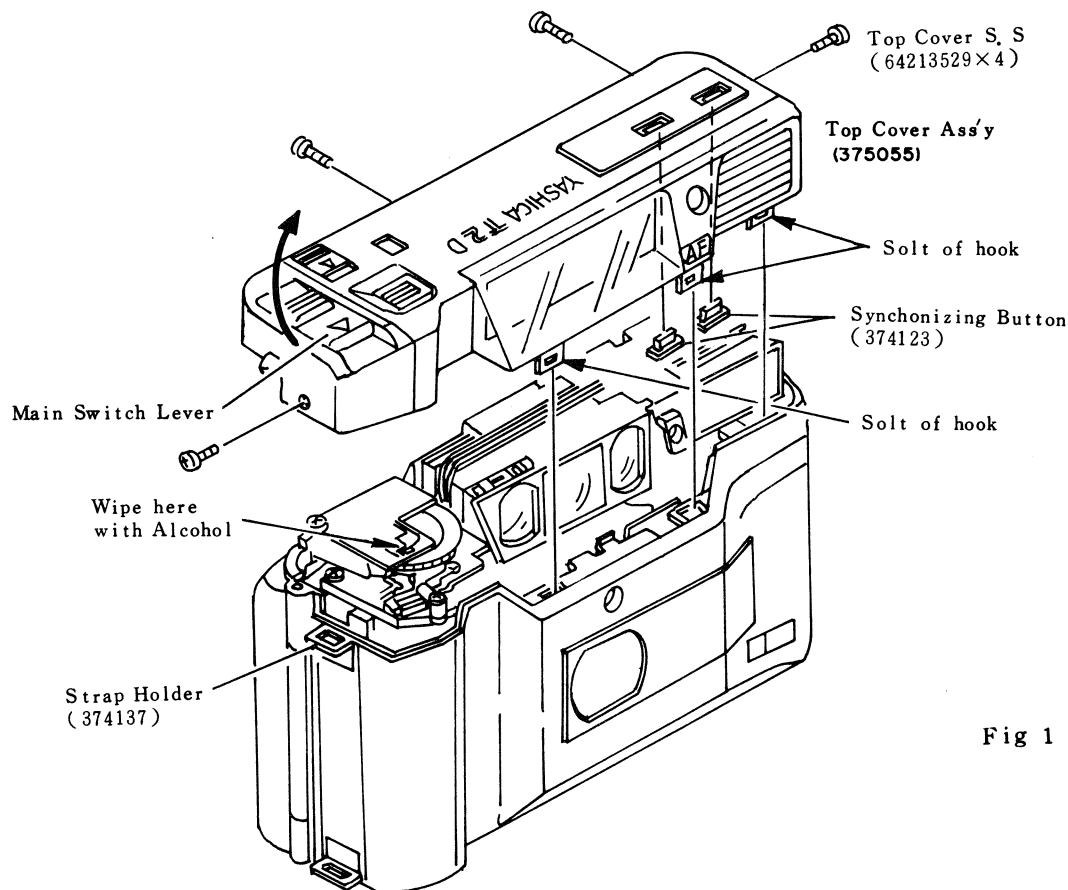
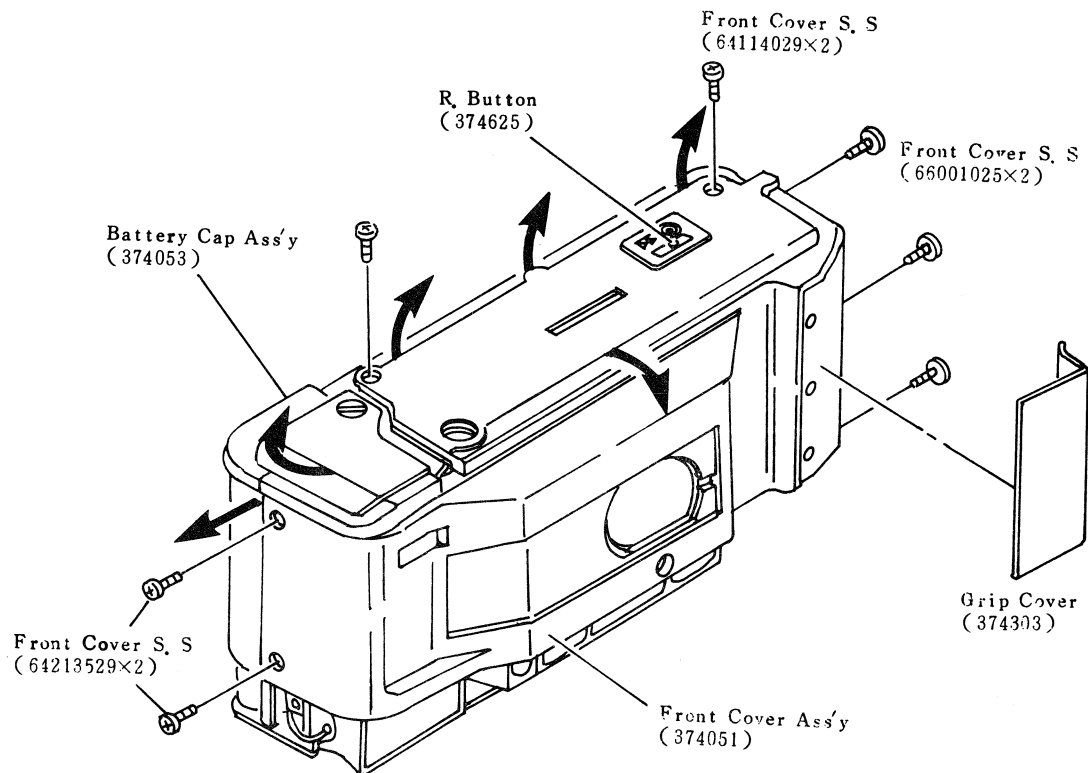

Fig 1
Fig 3
- 2) Disengage the projection on the Front Cover from the slot in the Top Cover and upward to remove the Top Cover Ass'y (375055) in the direction of the arrow as shown in (Fig 1).
- c) Before attaching the Top Cover, clean the pattern side surfaces of the Flash AMP Ass'y (374073) and Self-timer Switch Board Ass'y (374075) with Alcohol as shown in (Fig 1, 2).
- 4) Upward to remove the Front Cover Ass'y (374051) in the direction of the arrow as shown in (Fig 3). And remove Strap Holder (374137).(Fig 1).
- b) When removing and attaching the Front Cover, take care not to damage the R.Button (874625). and caution not to pinch R.Button also check the R.Button for its Operations as shown in (Fig 3).
※ Never pinch R.Button between Body and bottomside of Front Cover. See (Fig 3).